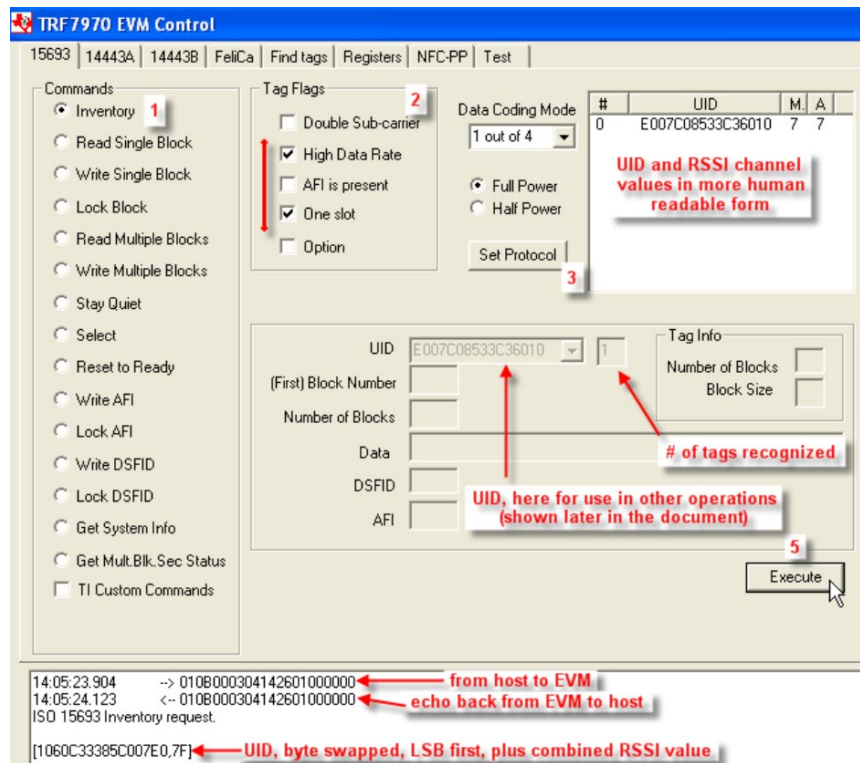

Figure 3. Single Slot Inventory Command (One Tag in Field)
2. Select Tag Flags accordingly (see Figure 3 for one example).
See Figure 3 and Figure 4 for example results of one tag in field and a collision between two tags, respectively.